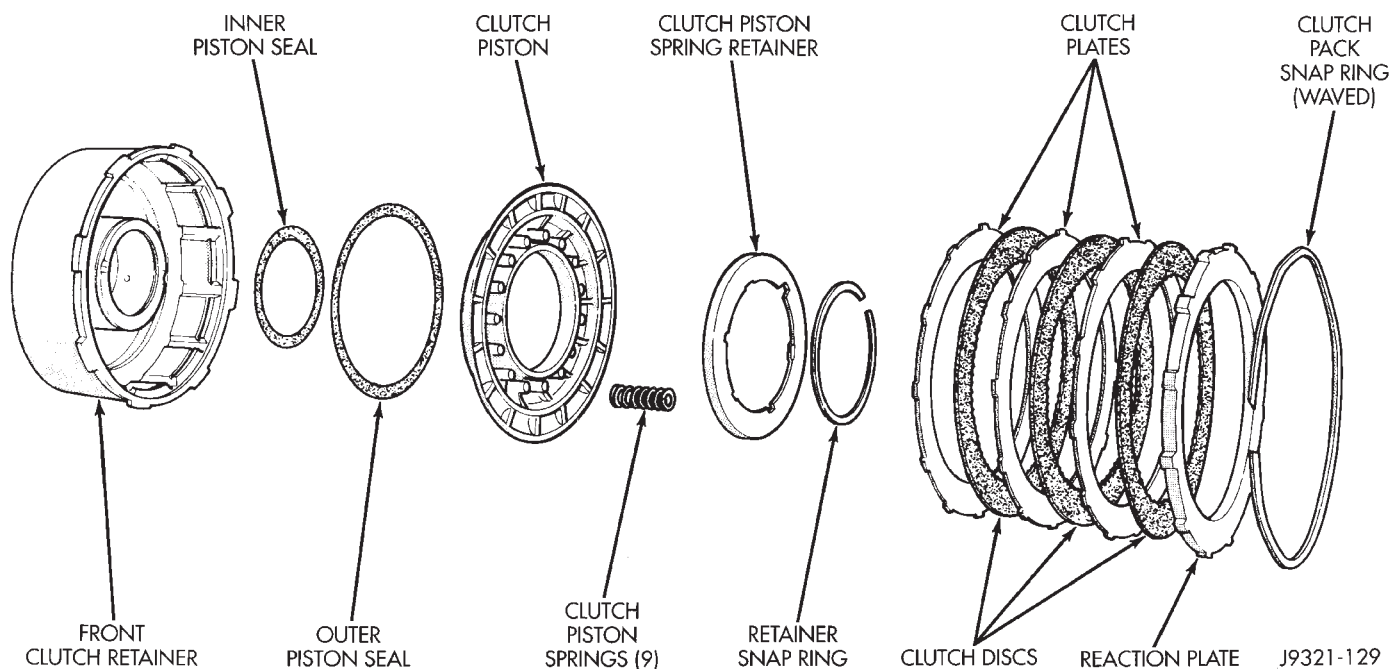

Fig. 61 46RH Front Clutch Components (3-Disc Clutch Shown)
(1) Remove waved snap ring and remove reaction plate, clutch plates and clutch discs (Fig. 61). **Note number of plates and discs in clutch pack for**